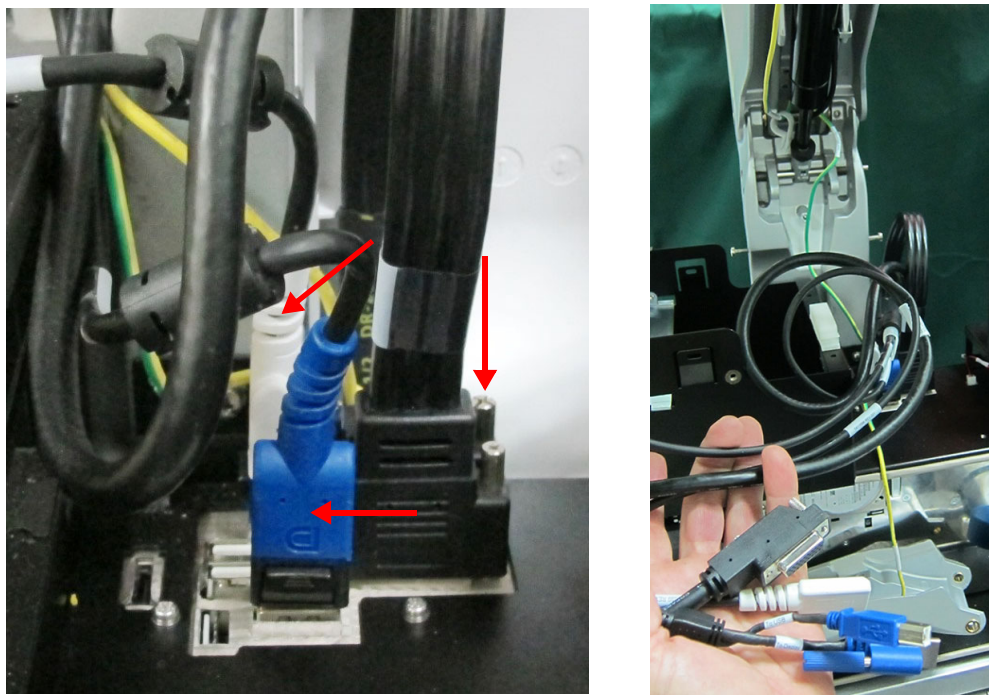

Figure 8-118 Cables Connected to Internal BIF Panel (Left) & Removed (Right)
13.) Disconnect the following cables from the internal BIF panel and remove them from the system - see Figure 8-118 below:
- OPIO display cable (at rear in Figure 8-118 below):
- 15.) Reconnect all the BIF cables previously disconnected from the BIF - refer to Figure 8-118 on page 8-91.